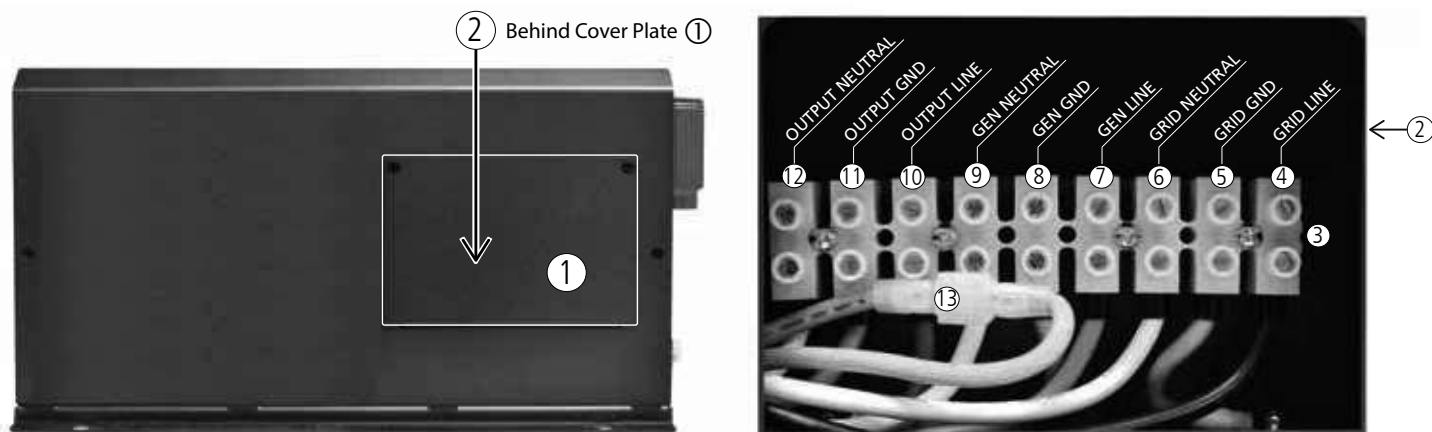

Fig 3.9 AC Input and Output
AC side layout and connection arrangement are shown in Fig 3.9.
LEGEND for Fig 3.9
- **Disabling Neutral to Ground Bond:** In some applications, the Output Neutral may be required to remain isolated from chassis/Ground at all times. For this, automatic Output Neutral to chassis Ground bond can be disabled by disconnecting the Male/Female Disconnect (13, Fig 3.9) located in the AC Wiring Compartment.
The AC input and output supply connections are located in a pocket protected by a cover with a removable front plate (1,2 Fig 3.9). Three 27.8mm / 1^{3/32}" diameter holes (10A to 10C, Fig 2.1) have been provided for cable / conduit entry. Remove the caps covering the holes and install appropriate 3/4" Trade Size Fitting for routing the AC input and output wires/conduits.
Screw down type of terminal block (3, Fig 3.9) is used for connecting the wires. The hole size for wire entry is 6 mm and set screw size is M4. It can accommodate conductors with solid or multi-stranded wire size range of AWG #6 to AWG #20.